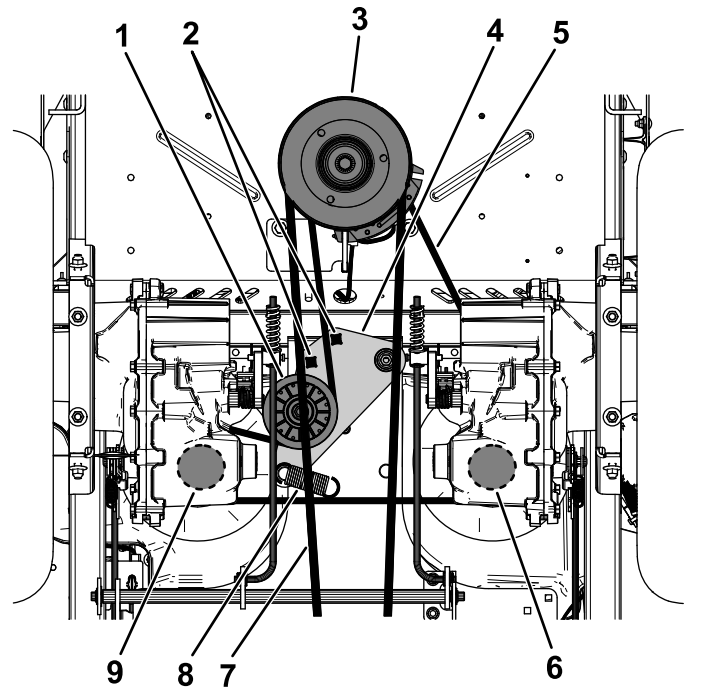

Figure 81
5. Use a 1/2-inch ratchet or breaker bar in one of the square holes in the idler arm to remove tension on the idler spring (Figure 81).
6. Remove the existing belt from the idler pulley, 2 hydraulic-pump-drive pulleys, and engine pulley (Figure 81).
7. Install the new belt around the idler pulley, engine pulley, and 2 hydraulic-pump pulleys (Figure 81).